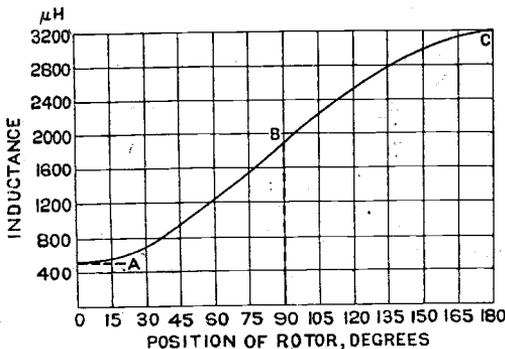

Fig. 3. The curve shows the inductance of a variometer for different settings of the rotor.
(B) A typical inductance curve of a variometer like Fig. 2B is given in Fig. 3. The inductance variation is roughly 6 to 1. The minimum value is 500 μH, and the maximum value 3,200 μH, the two windings being connected in series.